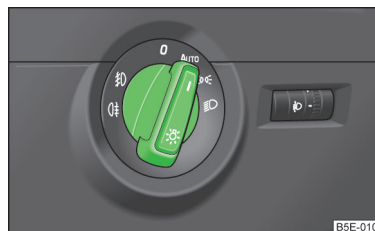

Fig. 30
- ✓ The light switch is in the position 0 or **AUTO** » Fig. 30 on page 49.
If the light switch is in position **AUTO** » Fig. 30, the side lights and low beam and number plate light are switched on/off automatically.
- Turn the light switch into position **AUTO** » Fig. 30 on page 49.